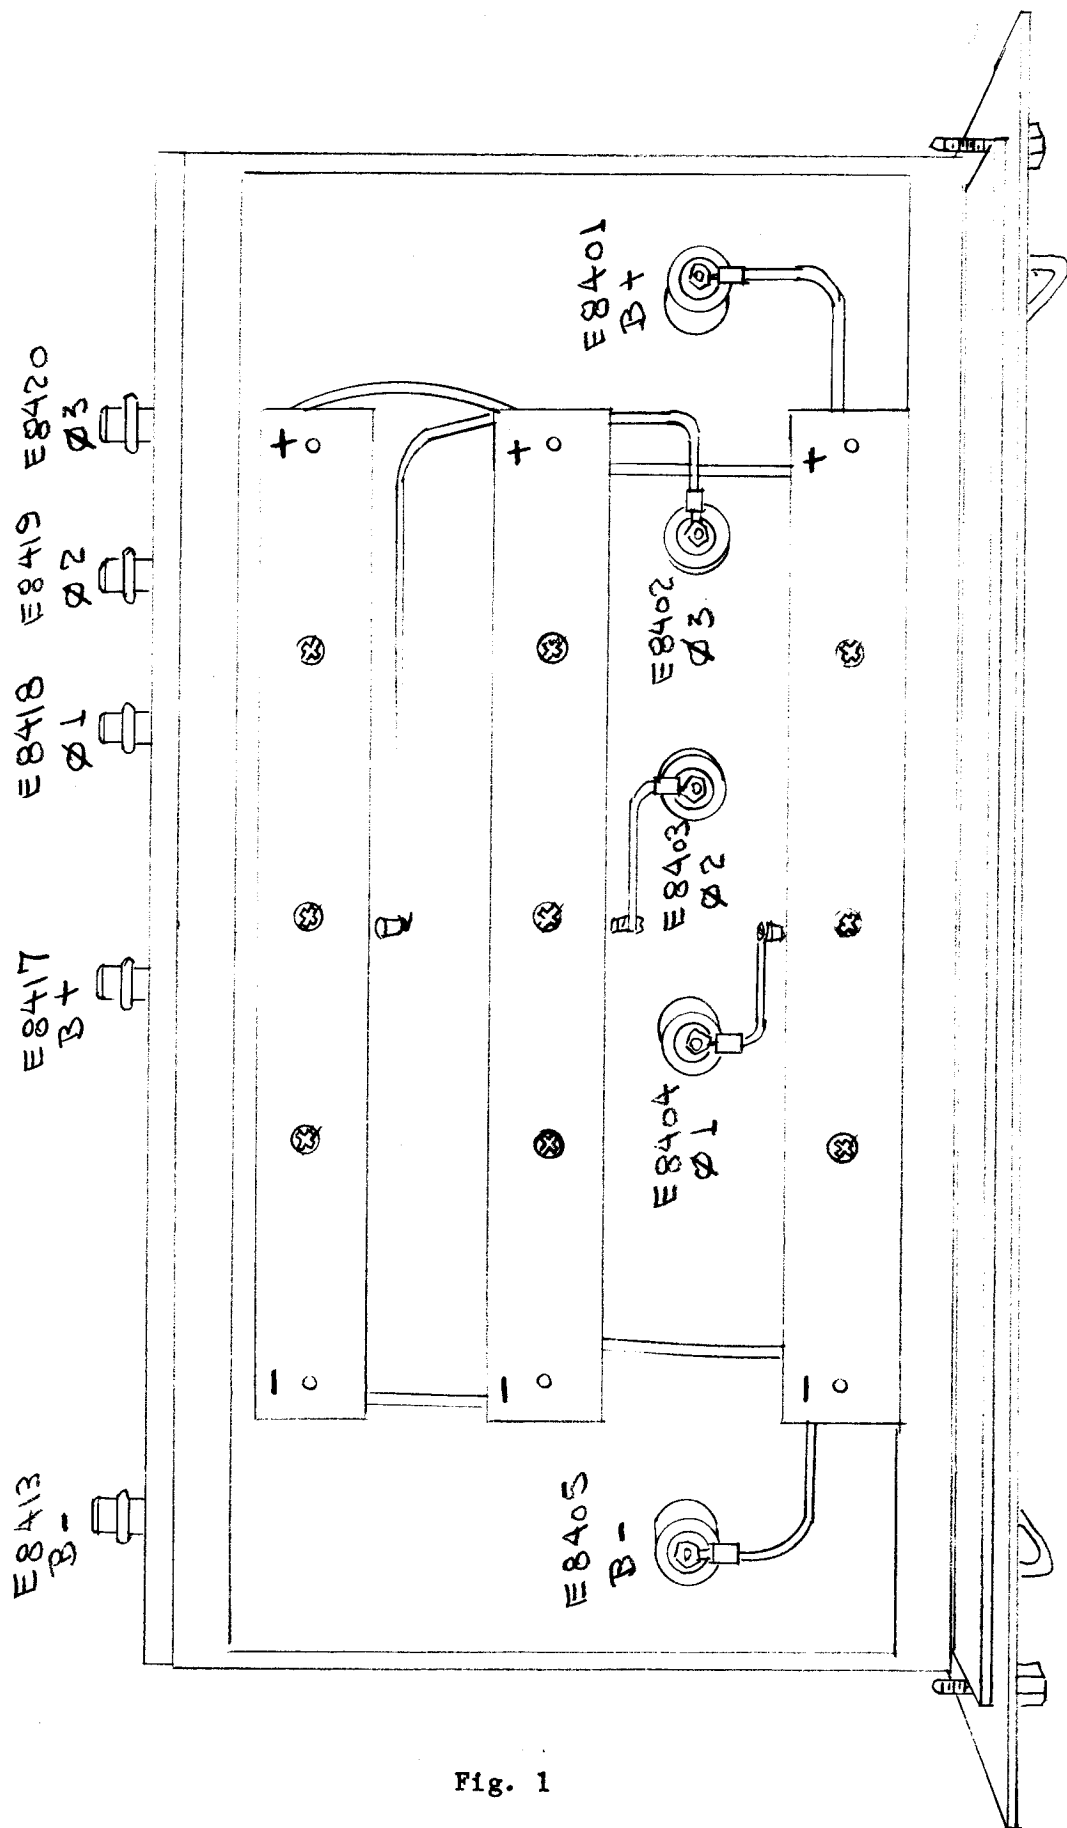

Fig. 1
2. Install Item 1 (Rectifier Board Assembly) on the chassis as shown in Figure 1. Using the 1/4 x 20 screws provided, use a flat washer adjacent to the head of the screw, and drop the screw down through the phenolic board into chassis, and secure the screw with a flat washer and lock washer and the 1/4 x 20 nuts provided. Note that the board can only be installed one way and, as shown in Fig. I, the single rectifier stack will be adjacent to the front window when properly installed.